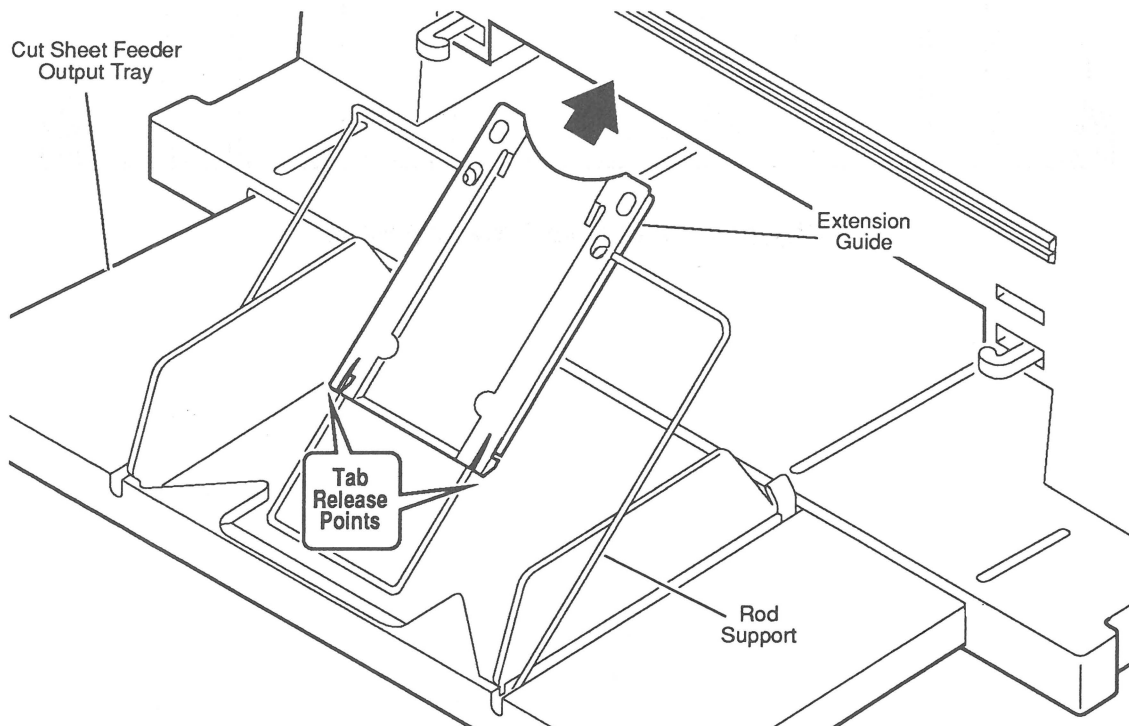

Figure 2-13 Output Tray Extension Guide
3. Slide the extension guide to the end of the shaft. Using a precision screwdriver, lift up the tabs to free the extension guide from the rod (**Figure 2-13**).